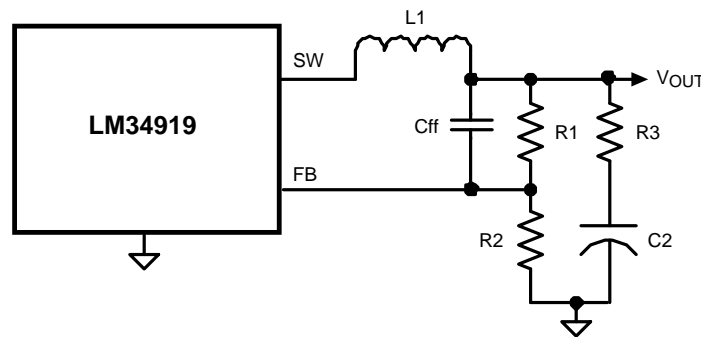

Figure 18. Reduced Ripple Configuration
a) Reduced ripple configuration: In Figure 18, Cff is added across R1 to AC-couple the ripple at V_{OUT} directly to the FB pin. This allows the ripple at V_{OUT} to be reduced to a minimum of 25 mVpp by reducing R3, since the ripple at V_{OUT} is not attenuated by the feedback resistors. The minimum value for Cff is determined from: